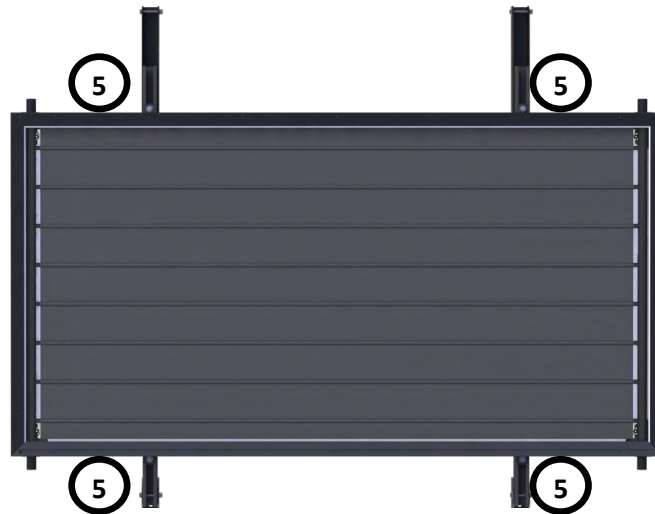

Figure 5
1. Place the Collector face up on the support strut equidistant from all edges. As shown in *Figure 5*.
2. Install four (4) C-SSN collector mounting assemblies and torque to 19 ft*lbs (26 N*m).